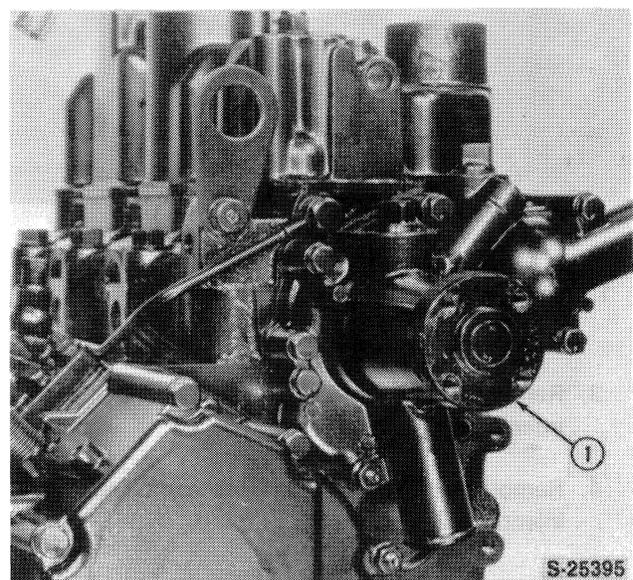

Figure 8
13. Remove the water pump (1) and thermostat (Model CM224), Figure 8. On the Model CM274 remove the thermostat housing, thermostat and water pump.